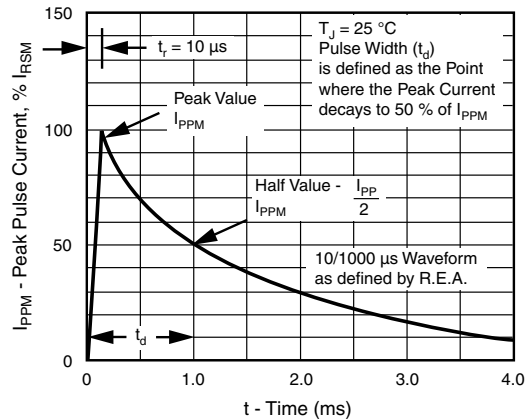
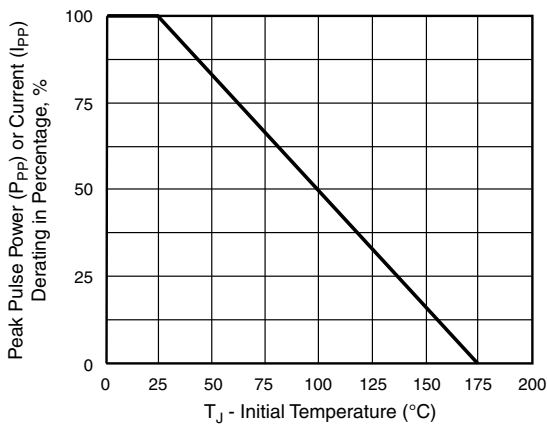

Fig. 3 - Pulse Waveform
Fig. 2 - Pulse Power or Current vs. Initial Junction Temperature
⁽¹⁾ Non-repetitive current pulse, per fig. 3 and derated above $T_A = 25$ °C per fig. 2
- (1) Pulse test: $t_p \leq 50\text{ ms}$
- (2) Surge current waveform per fig. 3 and derate per fig. 2
- (3) For bi-directional types with V_{WM} of 10 V and less the I_D limit is doubled
- (4) All terms and symbols are consistent with ANSI/IEEE CA62.35
- (5) Underwriters laboratory recognition for the classification of protectors (QVGG2) under the UL standard for safety 497B and file number E136766 for both uni-directional and bi-directional devices